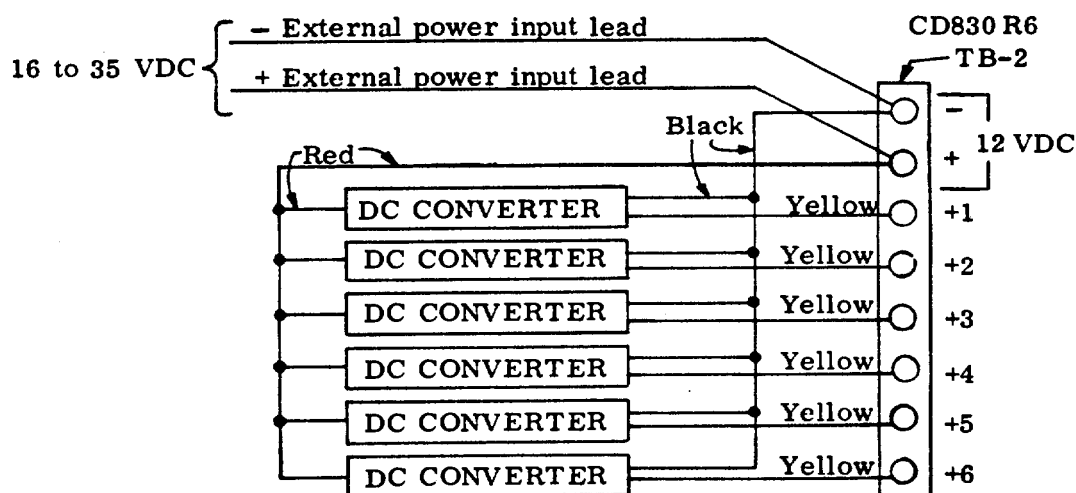

Figure 2-16. DC Converter Terminal Connection Diagram - CD830R6
2. Connect one DC converter for each control module as shown in Figure 2-16.